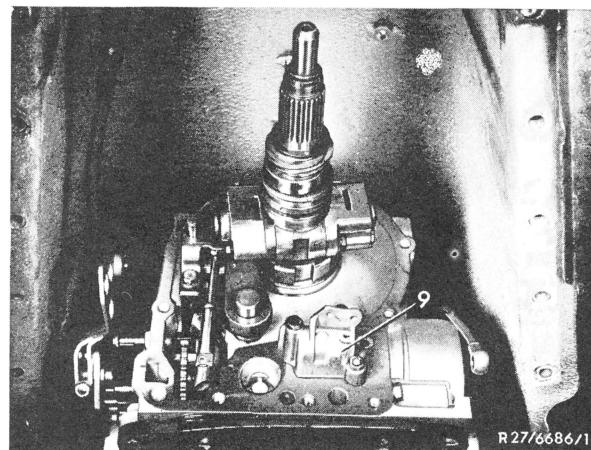

Fig. 6
16 Remove modulating pressure housing (9) and gasket (Fig. 6).
- 17 Install modulating pressure housing (9) with new gasket for rear transmission housing (Fig. 6). Center gasket on sealing surface of transmission housing by means of two screws.